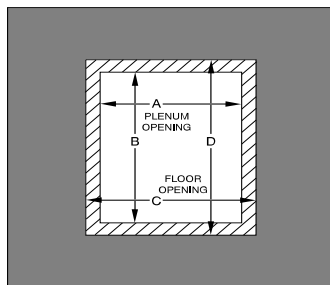

Fig. 11 – Floor and Plenum Opening Dimensions
2. Construct hole in floor, see Table 4 and Fig. 11.
3. Construct plenum to dimensions specified, see Table 4 and Fig. 11.